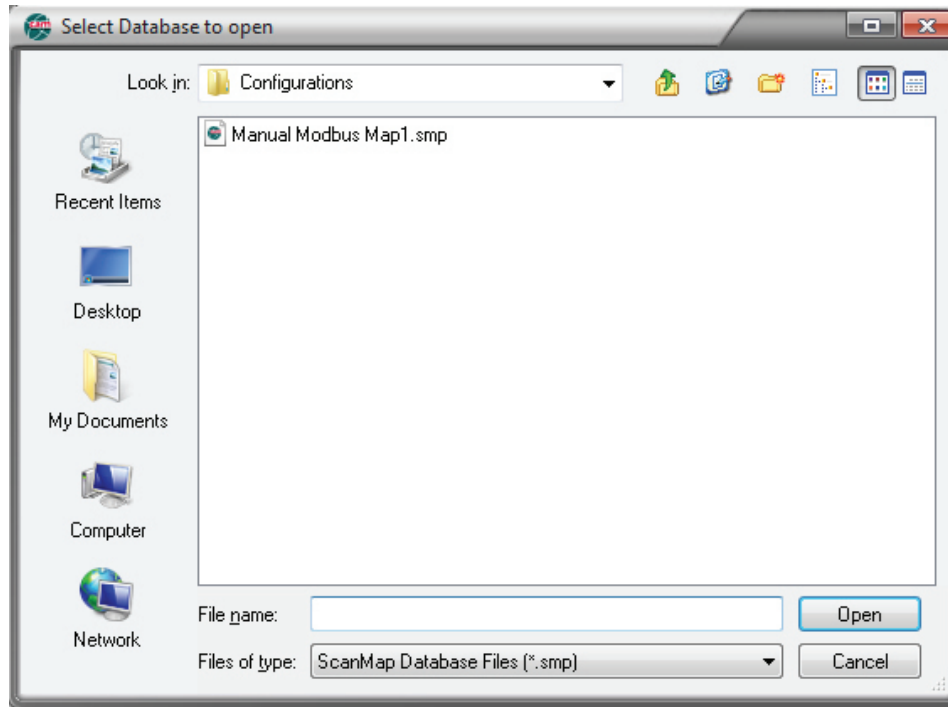

Figure 4.7—Select Database to Open dialog
2. From the *Select Database to Open* dialog (Figure 4.7, page 19), browse to the database you wish to open. By default, the pre-loaded databases are stored in the “C:\Cameron Data\ScanMap\Configurations” folder and user-created databases are stored in the “C:\Cameron Data\ScanMap\Maps” folder.